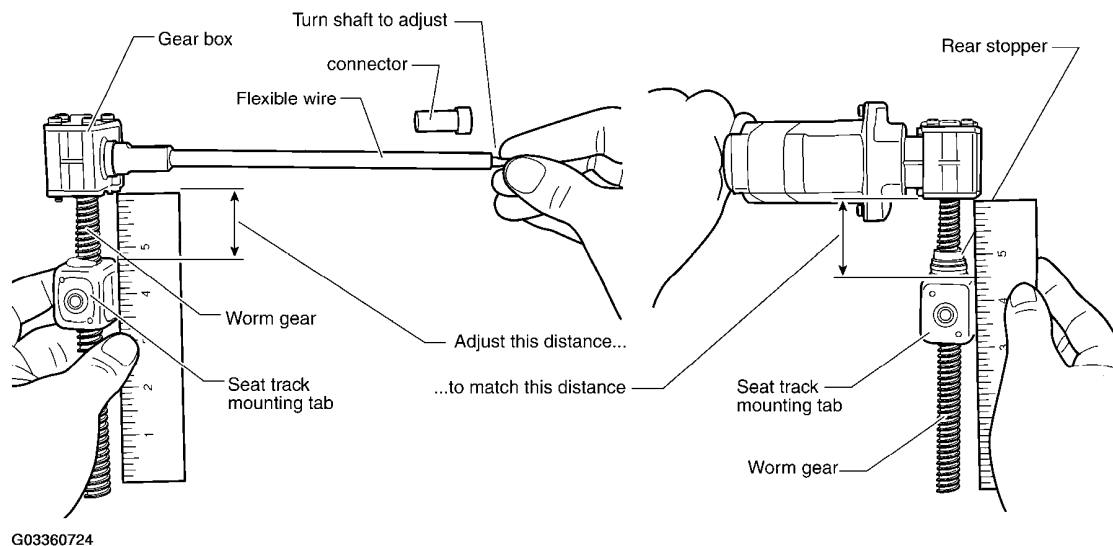

Fig. 9: Measuring Distance Between Gear Box & Mounting Tabs
18. Make sure the new seat track mounting tab is touching the rear stopper, with the threaded shaft facing up (see Fig. 9).
- Measure the distance between the gear box and the mounting tab (see Fig. 9).
- Measure and adjust the other seat track mounting tab to the same distance (see Fig. 9).